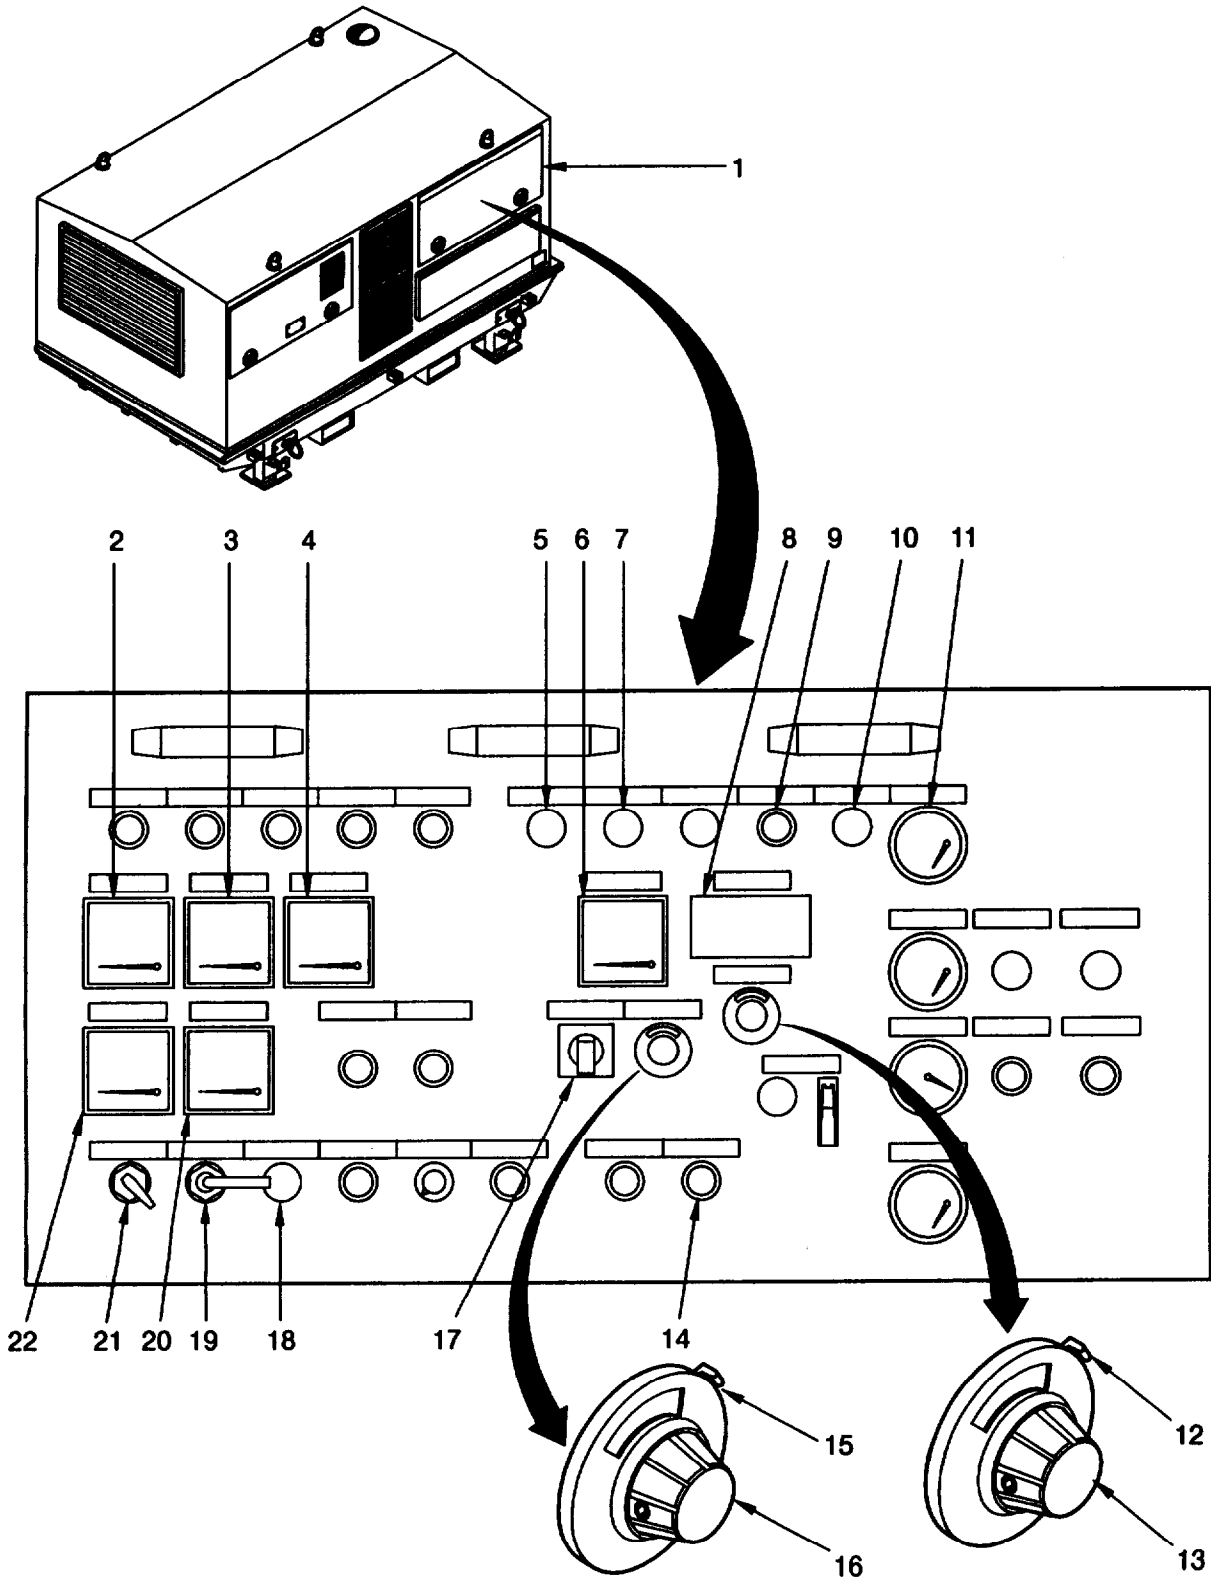
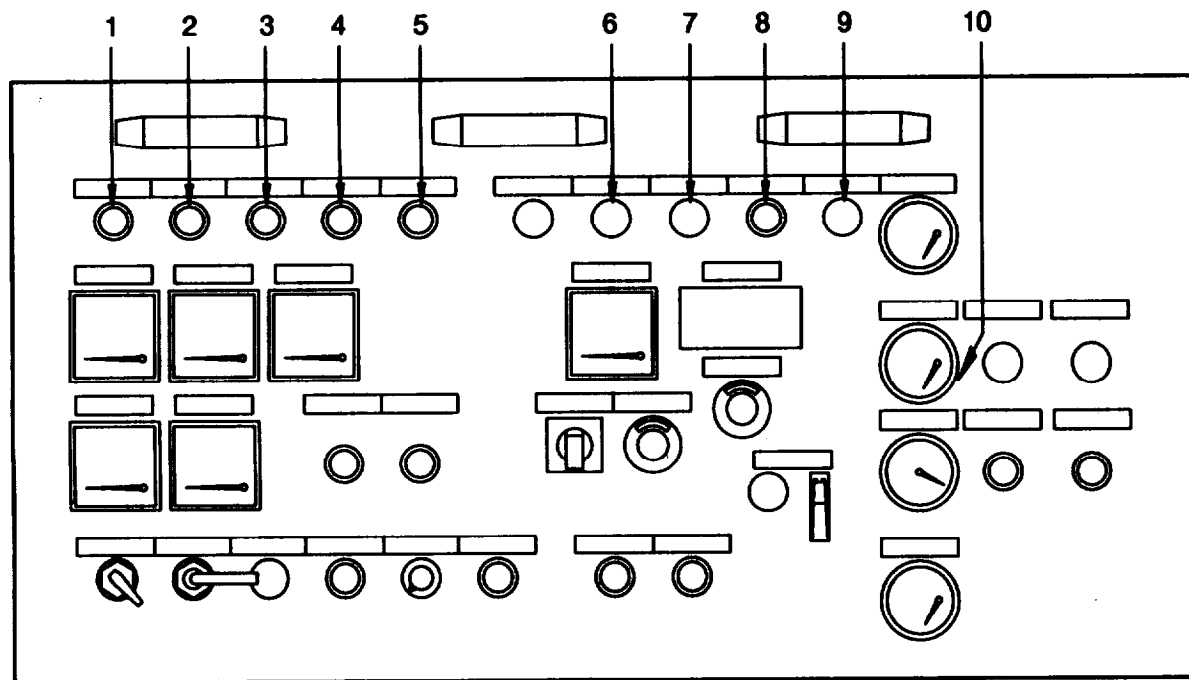

Figure 2-19 Operating the Generator Set 150 kW.
Figure 2-20 Fault Signals on Generator Set 150 kW Control Panel.
- Do not turn the GLOWPLUG/START rotary switch (19, figure 2-19) to the START position until the GLOWPLUG ON lamp (18) lights.
- If the diesel engine does not run smoothly or emits dense whitish-gray smoke, set the GLOWPLUG/START rotary switch (19) back to GLOWPLUG and repeat the glowplug procedure (maximum duration: 3 minutes).
- a. Open flap (1, figure 2-19) and turn MASTER SWITCH (21) ON.
- b. Turn GLOWPLUG/START rotary switch (19) to START and hold:
At temperatures below 32 °F (0 °C), allow the diesel engine to warm up for approximately 10 minutes before actuating the AC CIRCUIT INTERRUPTER ON illuminated pushbutton switch (14, figure 2-19).
- a. Read AMPS L1 (OA), AMPS L2 (OB), and AMPS L3 (OC) meters (2, 3, and 4, figure 2-19): **0-600 A.**
- b. Read KILOWATTS meter (22): **0 - 200 kW.**
- c. The following indications (figure 2-20) indicate generator faults or maintenance required:
- UNDER/OVER FREQUENCY (1)
- UNDER/OVER VOLTAGE (2)
- GENERATOR OVER TEMPERATURE (3)
- OVERLOAD (4)
- RESERVE POWER (5)
- OIL PRESSURE (6)
- OIL TEMP-CYLINDER HEAD (7)
- AIR FILTER (8)
- LOW FUEL (9)
- OIL TEMPERATURE (10)
The OVERLOAD lamp (4, figure 2-20) indicates shutdown due to a generator set fault/overload.
After remedying a generator malfunction, press OVERLOAD illuminated pushbutton switch (4, figure 2-20).